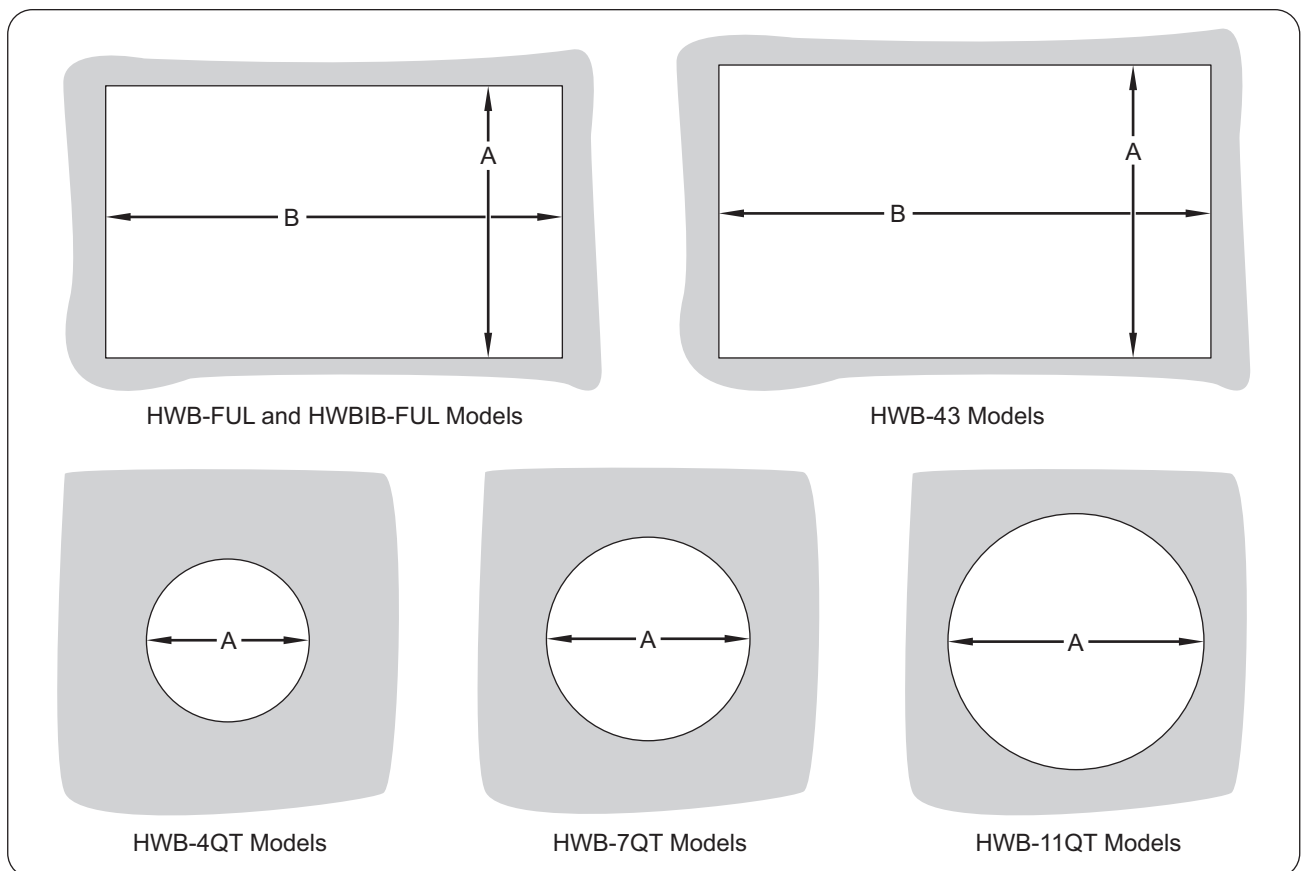

Figure 25. Non-Combustible Countertop Mounting Templates
1. Cut the appropriate opening in the countertop (see Figure 25 for size requirements).